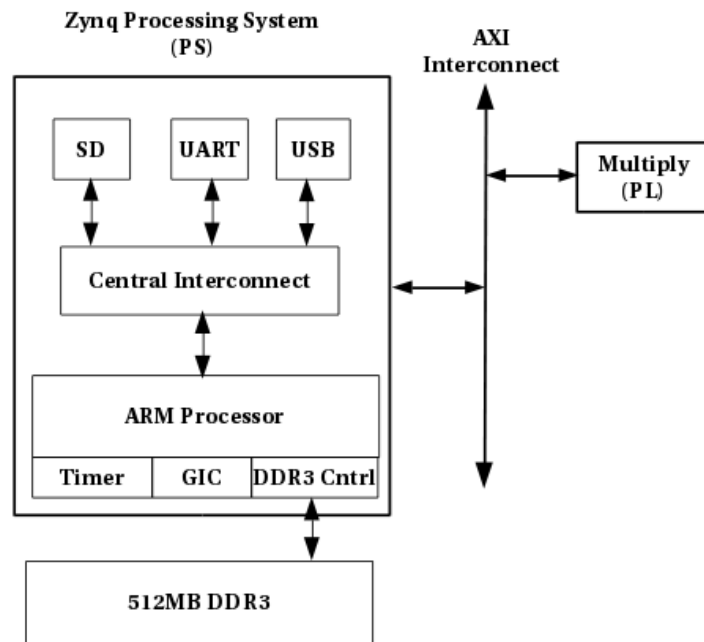
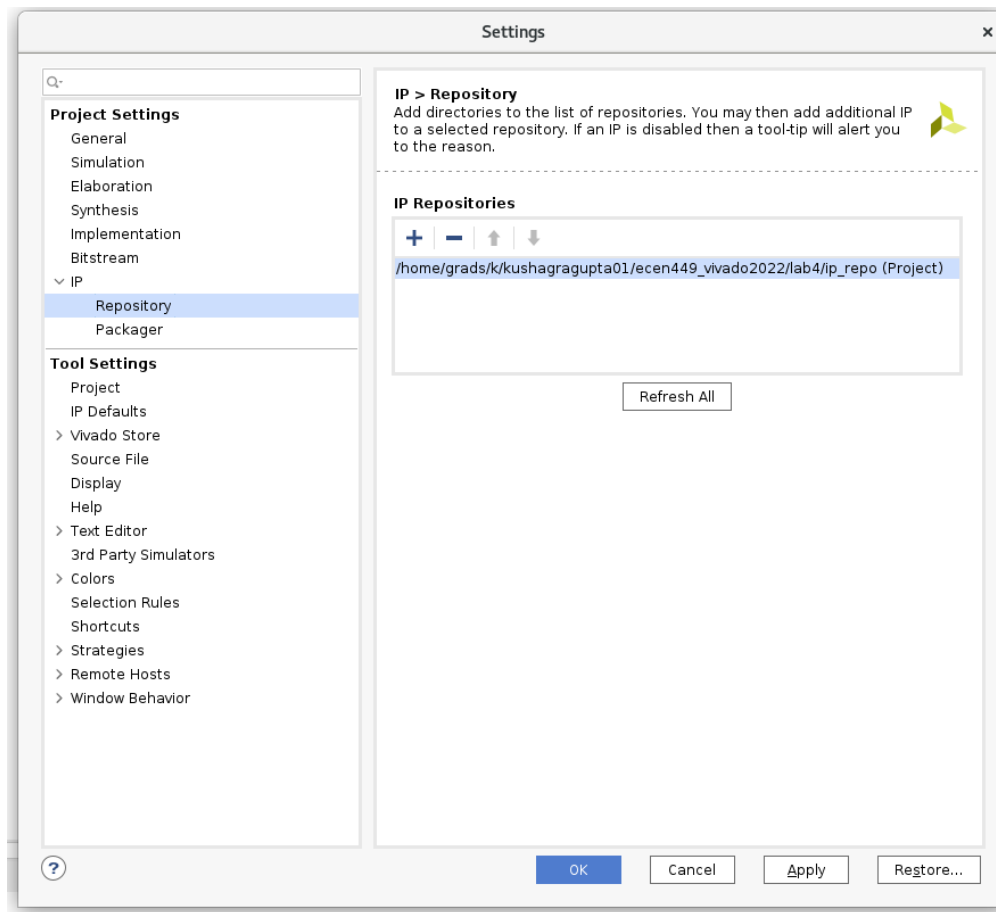

Figure 1: Zynq System Diagram
Figure 2: Add IP repository
The microprocessor system you will build in this lab is depicted in Figure 1. As in last lab, this system has a Zynq processor, an UART Peripheral, and a custom multiplication peripheral. Unlike last lab, however, this system has an SD Card, a timer and a DDR3 (Double Data Rate v3 Synchronous Dynamic Random Access Memory) controller. Additionally, the PS itself has a Memory Management Unit (MMU) and instruction and data cache. These additional peripherals along with the MMU within the PS are required to run Linux. The SD card controller provides SD card read/write access. The DDR3 SDRAM controller provides the system with 1GB of RAM where the Linux kernel can reside. The interrupt controller enables interrupt handling necessary for interaction with I/O. The MMU within the PS enables virtual memory, which is required to run a mainstream Linux kernel. The PS(ARM Cortex A9) cache is added to improve performance, as DDR SDRAM accesses have high latency. Interrupts to the processor are addressed by Generic Interrupt Controller(GIC). The timer is necessary for certain OS system calls.
1. To begin, we must create a base PS system which includes all the peripherals shown in Figure 1 .
- (b) Next create block design, add 'ZYNQ7 Processing System' (PS) IP, run block automation and import 'ZYBO_Z7_B2.tcl' file' as shown in Lab 3.
- (f) Click on 'Settings' under the 'PROJECT MANAGER' section in Vivado. Expand 'IP' in the project setting window and click on 'Repository'. Click on the blue '+' sign and add the 'ip_repo' directory as shown in Figure 2. Click apply to add multiply IP to the current project IP catalog. Now you can add multiply IP to the base system.
- (a) Compared to lab 3, the lab 4 microprocessor system shown in Figure 1 has 512 MB of SDRAM. However, our system still includes a small amount of local memory. What is the function of the local memory? Does this 'local memory' exist on a standard motherboard? If so, where?